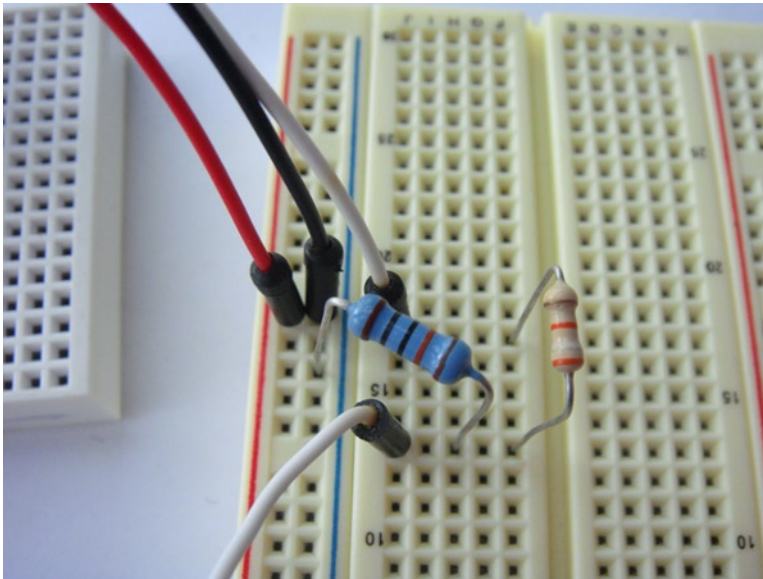

Figure 5-13. A close-up of the resistor placement
4. Now connect the Raspberry Pi's P1-11 GPIO to the power rail side of the 100K ohm resistor. Take a look at Figure 5-13 for a close-up image of the resistor and GPIO pin connections.